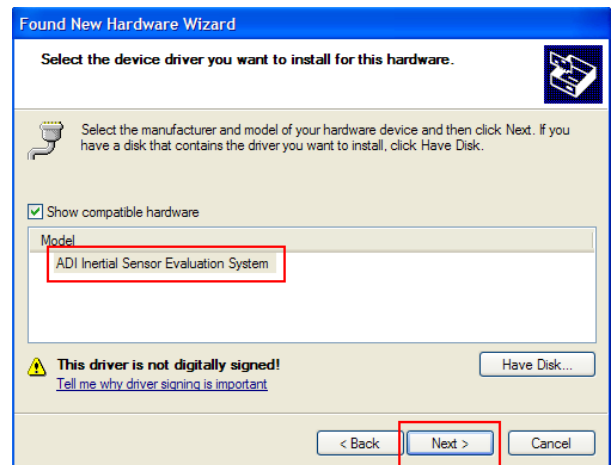

Figure 8. Selection of the ADI Inertial Sensor Evaluation System Drivers
- Select **ADI Inertial Sensor Evaluation System** from the model list (see Figure 8), and click **Next** to complete the process.